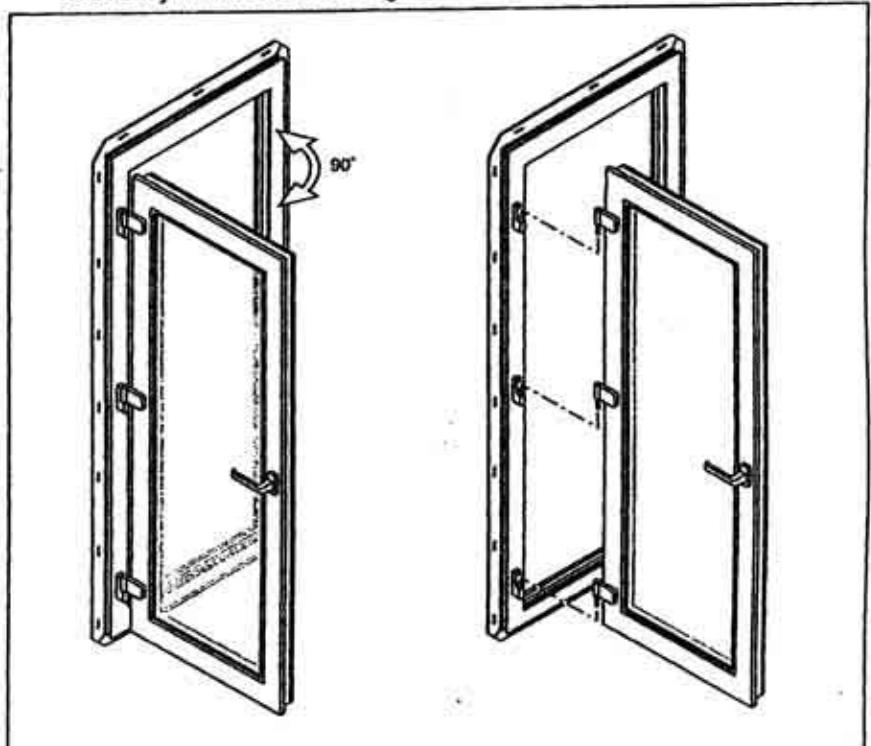

Figure 4-9. How to remove the sash from the hinges
- 3.4 With the help of an assistant, gently lift the sash up and free of the hinges. Move the sash away from the frame. See fig. 4-9.
- 5.2 With help of an assistant, lift the sash. Put the sash in position: make sure that the hinge pins correctly engage in the frame portion of the hinge. See fig. 4-9.